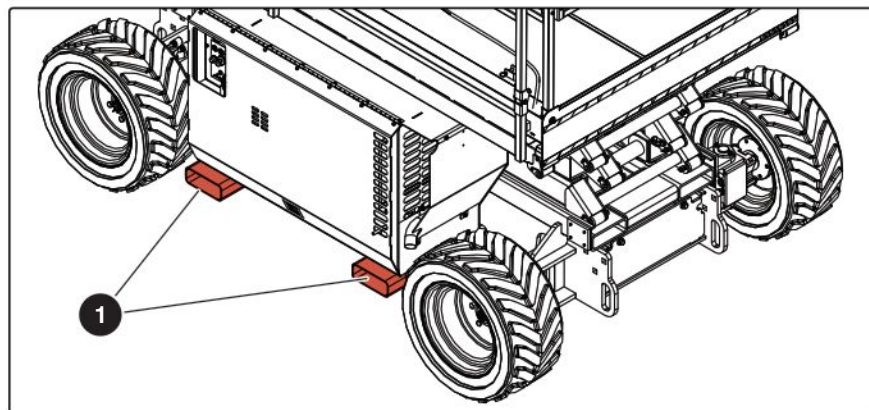

Figure 03 Forklift lift locations
- Lift the MEWP with the forklift forks in the forklift lift locations . Refer to Figure 03.